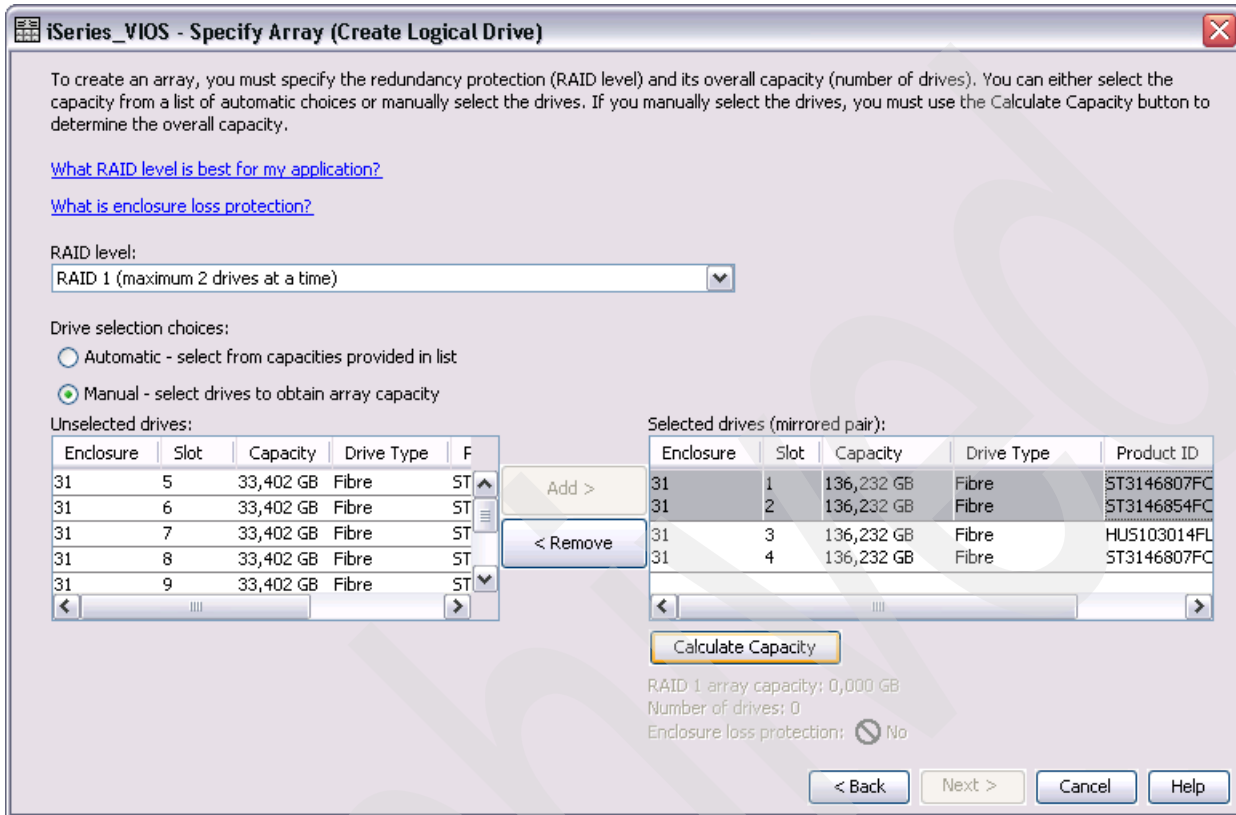

Figure 7-52 DS Storage Manager Create Logical Drive dialog after adding drives
- We select the first two 136 GB drives for our RAID-10 array from the Unselected drives list and click **Add**, select the second two 136 GB drives, and click **Add** again. Having two mirrored pairs now in the Selected drives list we select **Calculate Capacity**, as shown in Figure 7-52.